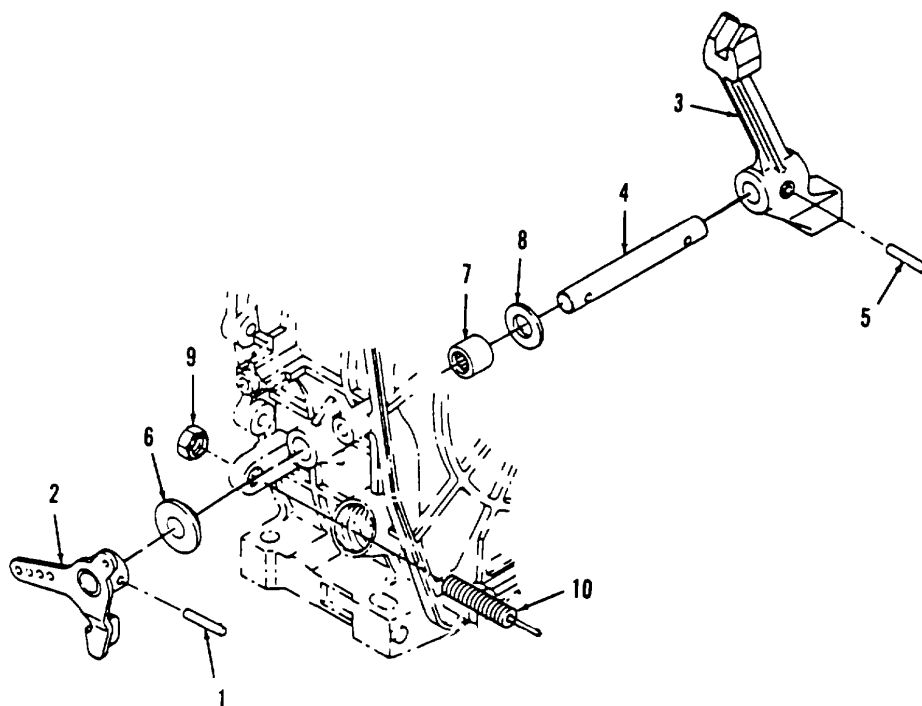
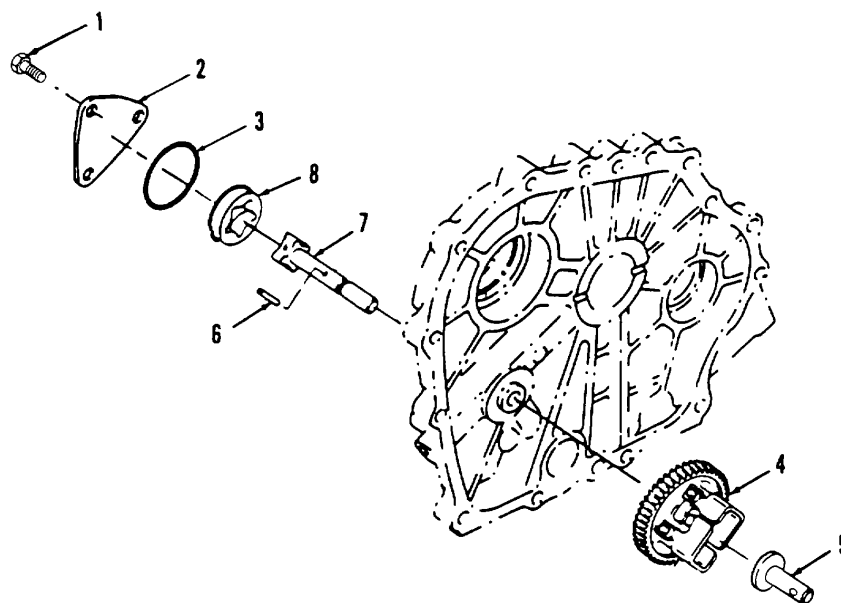

Figure 6-5. Governor Assembly Removal.
Figure 6-6. Lube Oil Pump Repair and Replacement.
a. Removal.**(1) Governor Assembly Removal.** (Refer to Figure 6-5).
- (a) Remove governor lever taper pin (1).
- (b) Remove governor lever (2).
- (c) Remove governor control arm (3) and governor shaft (4) from inside the engine.
- (d) Remove governor control arm lever taper pin (5).
- (e) Remove governor control arm (3) from the governor shaft (4).
- (f) Remove thrust bushing (6).
- (g) Remove needle bearing (7) and washer (8).
- (h) Remove nut (9) from fuel limiting adjustment (10).
- (i) Remove fuel limiting adjustment (10) from crankcase.
(2) Lube Oil Pump Removal. (Refer to Figure 6-6).
- (a) Remove three lube oil pump cover bolts (1) holding lube oil pump cover (2).
- (b) Remove lube oil pump cover (2) and O-ring (3). Discard O-ring.
- (d) Grasp hold of the plastic gear (4) and carefully pull spindle (5) from lube oil pump shaft.
- (e) Remove drive pin (6).
- (f) Remove lube oil pump shaft (7) and outer rotor (8) from crankcase cover.
(c) Insert spindle (5) into the weights (6) on the governor gear assembly (7), then push the governor gear assembly (7) onto the oil pump shaft (4). Ensure that gear is firmly engaged onto pin (3). (d) (Refer to Figure 6-6). Install new O-ring (3) onto crankcase cover and secure oil pump cover (2) with 3 bolts (1).
- (2) Governor Assembly. (Refer to Figure 6-5).